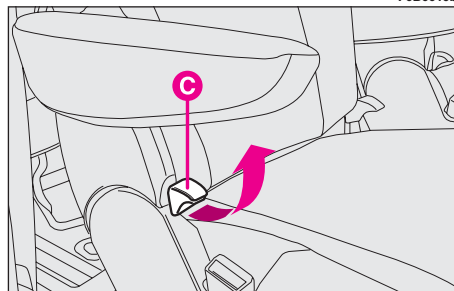
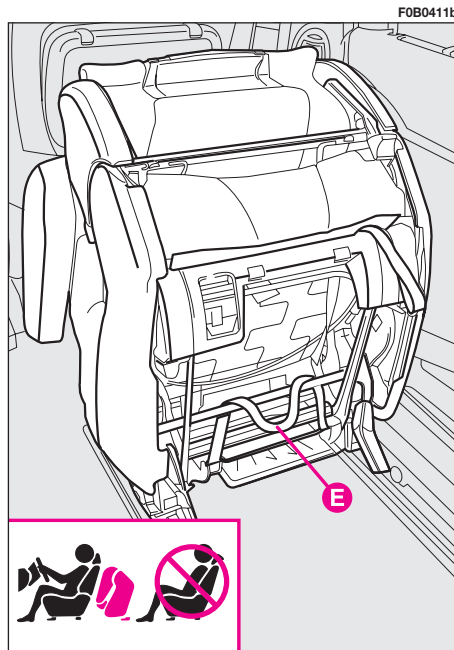

fig. 33
fig. 36
### TO ADJUST THE RECLINING SEAT BACK fig. 33
To use the side seat back as a supporting plane (“table” position), operate release lever **C**-fig. 33 and guide the seat to the cushion.
Operate release lever **C-fig. 33** and guide the seat back until the “table” position is reached; then turn the tipped seat again until the “wallet” position illustrated in **fig. 36** is reached.
**When the second row seat is tipped in “wallet” position, it is not possible to transport passengers on the third row seats, as illustrated on label fig. 36 placed on the seats themselves. This is a precaution to avoid any risk of contact with the articulation mechanisms of the seat itself.**
To get at the rear seats (third row), lift lever **C-fig. 33** from the outside and tip the whole seat forward.
– operate release lever **C**-fig. 33 and guide the seat back until the “table” position is reached; turn the tipped seat again until the “wallet” position is reached fig. 36;